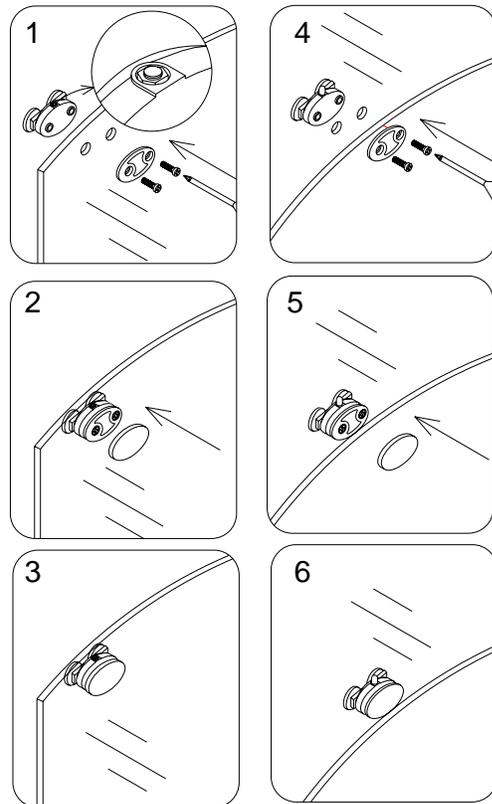

Fig 8
9. Your unit can be shipped to you with the **Wheel assemblies (17)** installed on the doors. If not, please refer to fig. 8 on how to install it. Attach the top and bottom wheels to the glass doors. The wheel that goes on the top has an adjustable screw and nut to adjust the door level. Note that the lock nut of upper wheel should face up. The bottom wheel has a press button to hook the wheel on the bottom guide rail; that button should face up. See fig. 8 for details.